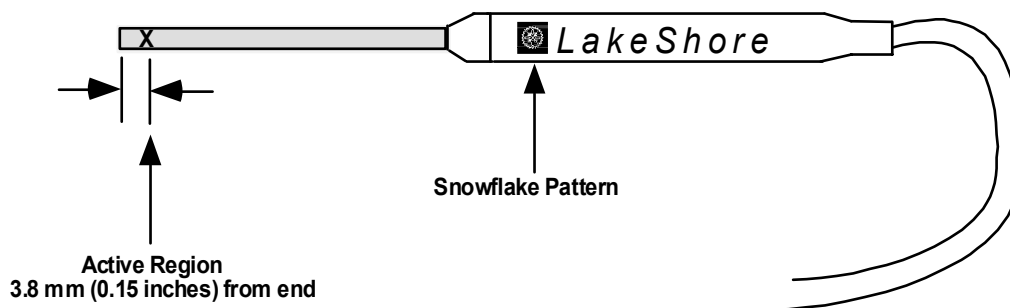
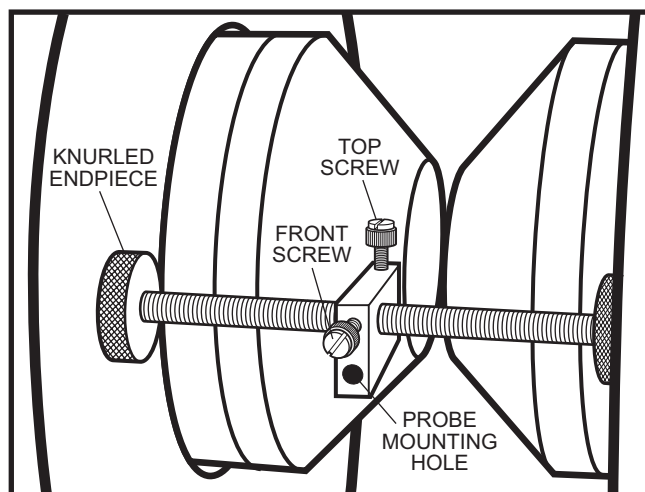

Figure 4-5. Gaussmeter Probe Orientation
Figure 4-6. Gaussmeter Probe Holder Installation in an Electromagnet. The 75013 SCSM is not shown, but should be present during installation.
Operation of the Model 75013 SCSM at room temperature with the narrowest possible electromagnet pole gap requires a Gaussmeter Probe (Figure 4-5) and Gaussmeter Probe Holder (Figure 4-6).
2. Insert Gaussmeter probe holder between coils of electromagnet (see Figure 4-6). The probe mounting hole can be above or below threaded rod, as desired. Turn the two knurled endpieces to wedge the assembly in place. Do not over-tighten or the threaded rod bends and buckles.